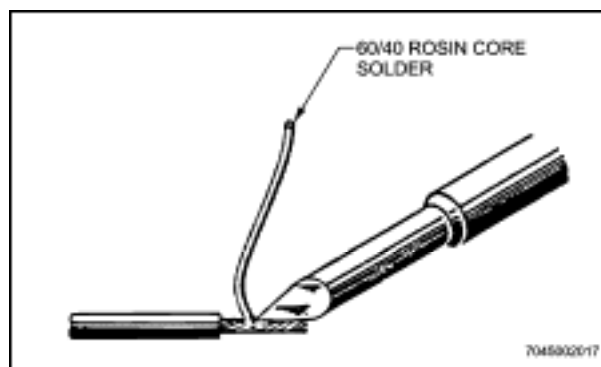

Figure 3-5 Tinning Wire With Soldering Iron
20. In the field, wires smaller than size No. 10 may be tinned with a soldering iron and rosin-core solder as follows (see Figure 3-5):